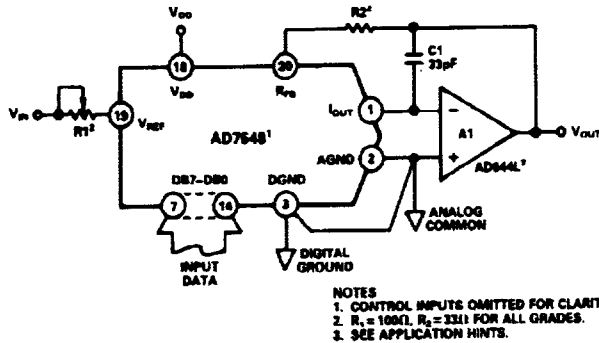
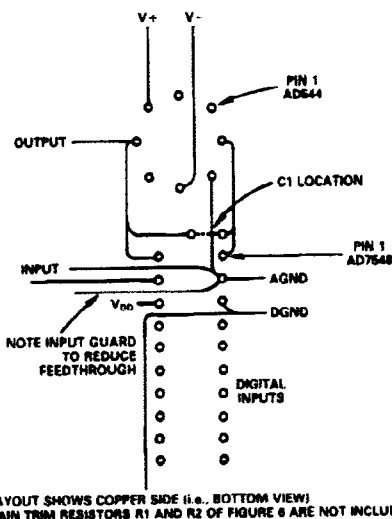

Figure 6. Unipolar Binary Operation
Figure 9. Suggested Layout for AD7548 and Op Amp
The contents of the DAC register can be overridden by pulling  $DF/\overline{DOR}$  (pin 5) LOW. The CTRL (pin 6) input then determines whether the DAC register data is overridden by all 0s (CTRL LOW) or all 1s (CTRL HIGH). This feature allows the user to calibrate the AD7548 in circuits such as Figure 6 without calling on the microprocessor to load calibration data.
Figure 6 shows the analog circuit connections required for unipolar binary operation. With a dc input voltage or current (positive or negative polarity) applied at pin 19, the circuit is a unipolar D/A converter. With an ac input voltage the circuit provides 2-quadrant multiplication (digitally controlled attenuation).
Table I shows the code relationship for the circuit of Figure 6.
Table I. Unipolar Binary Code Table for Circuit of Figure 6
**Output Offset:** CMOS D/A converters in circuits such as Figures 6 and 7 exhibit a code dependent output resistance which in turn cause a code dependent amplifier noise gain. The effect is a code dependent differential nonlinearity term at the amplifier output which, depends on  $V_{OS}$  where  $V_{OS}$  is the amplifier input offset voltage. To maintain monotonic operation it is recommended that  $V_{OS}$  be no greater than  $(25 \times 10^{-6})(V_{REF})$  over the temperature range of operation. Suitable op amps are AD517L and AD544L. The AD517L is best suited for fixed reference applications with low bandwidth requirements: it has extremely low offset (50 $\mu$ V) and in most applications will not require an offset trim. The AD544L has a much wider bandwidth and higher slew rate and is recommended for multiplying and other applications requiring fast settling. An offset trim on the AD544L may be necessary in some circuits.
**Feedthrough:** The dynamic performance of the AD7548 will depend upon the gain and phase stability of the output amplifier, together with the optimum choice of PC board layout and decoupling components. A suggested printed circuit layout for Figure 6 is shown in Figure 9 which minimizes feedthrough from  $V_{REF}$  to the output in multiplying applications.